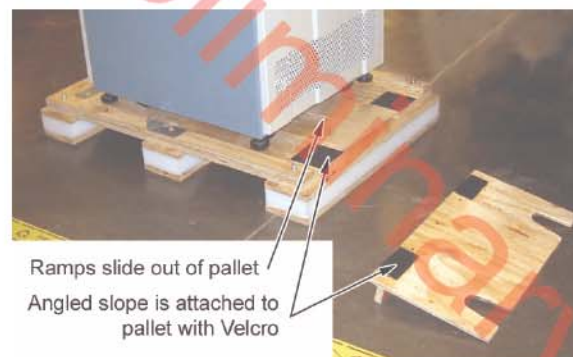

Figure 1-3: Pallet Accessories
- Remove the angled slope and ramps from the pallet. See Figure 1-3.